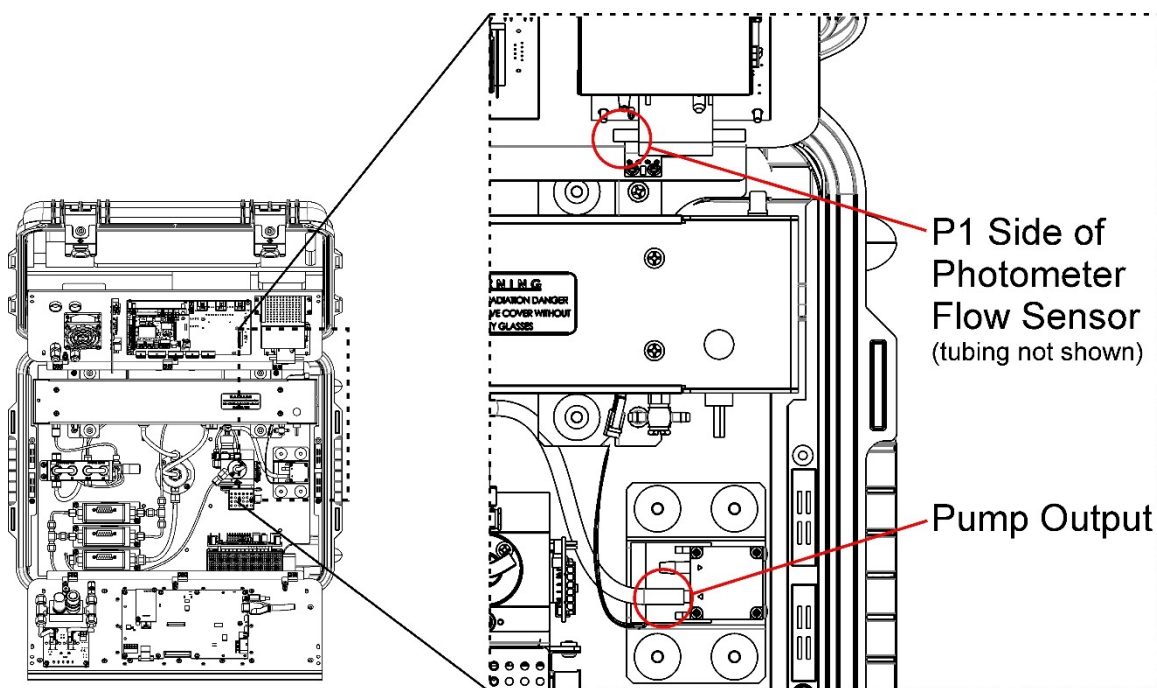
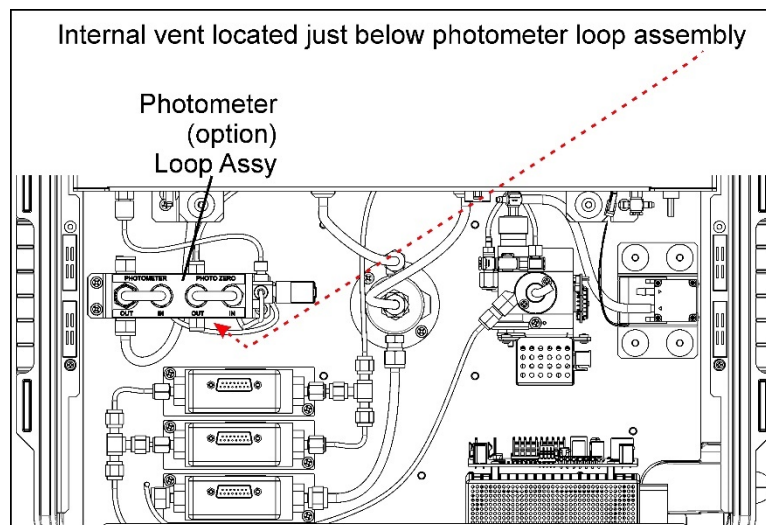
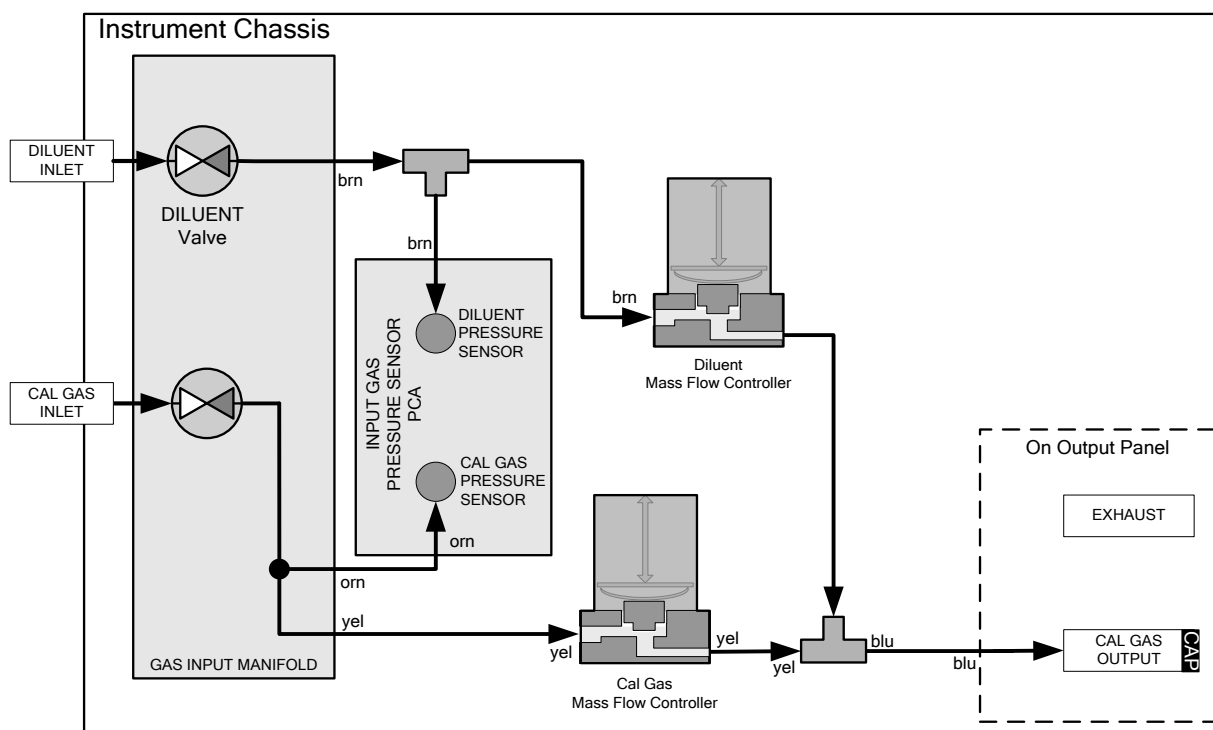
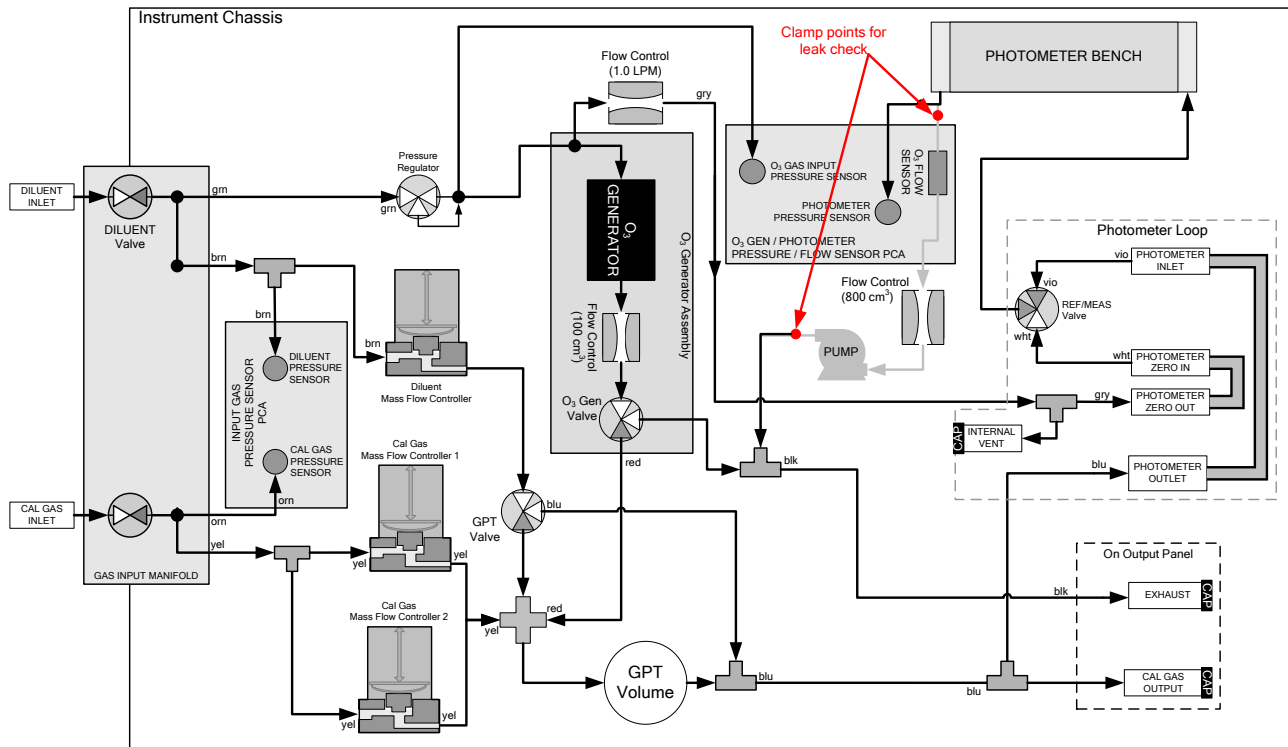

Figure 7-4. Clamping the Photometer Sensor Input and Pump Output
Figure 7-5. Internal Vent Location
Figure 7-6. Gas Flow for Auto-Leak Check Procedure of Base Model T750 (no Photometer)
Figure 7-7. Gas Flow for Auto-Leak Check Procedure of Calibrator with Photometer
Refer to Figure 7-4 and Figure 7-5 for the setup instructions, and to Figure 7-6 and Figure 7-7 for illustrations of pneumatic flow in the basic model and with the optional photometer, respectively):
5. On instruments with the O₃ photometer installed, clamp off the input to the photometer flow sensor and clamp off the pump output (refer to Figure 7-4):
6. Use the 1/8" cap to securely cover the outlet of the internal vent (Figure 7-5).